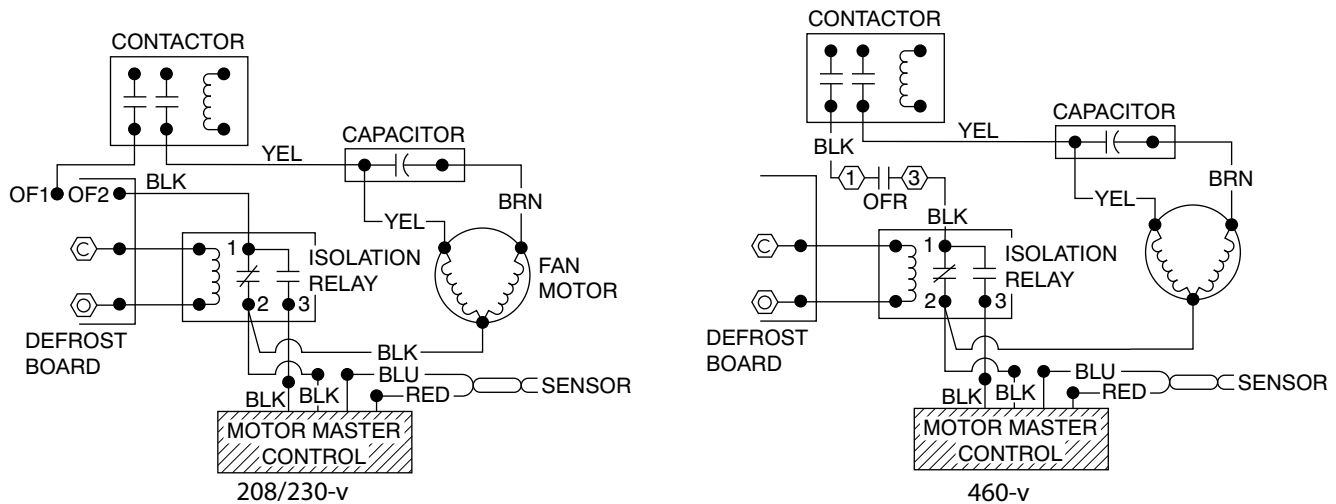

Fig. 8 – Power Wiring for 208/230-v and 460-v Heat Pump Units
1. Normally closed relay contacts must be in parallel with MotorMaster as shown in Fig. 8.
2. Normally open relay contacts must be in series with MotorMaster as shown in Fig. 8.
MotorMaster must be wired in series with fan motor. (See Fig. 8.) Power wiring must comply with all local codes and NEC requirements.